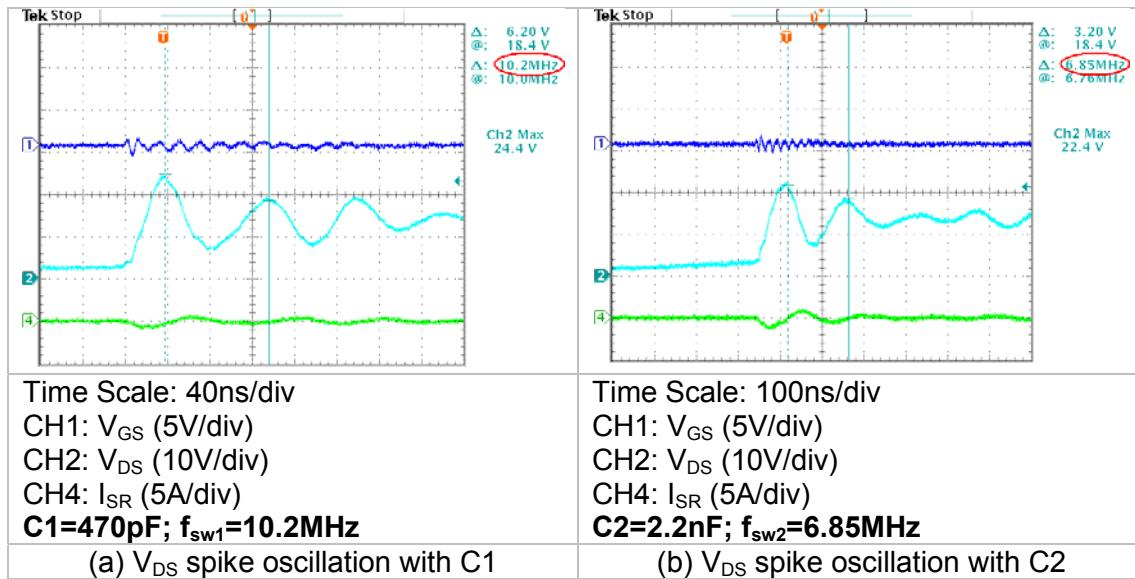

Figure 15 —Drain-Source Voltage Spike Oscillation
According to (13) and bench test results in figure 15, C_P and L_S can be calculated as $\sim 940pF$ and $\sim 0.2\mu H$.
- Secondary stray capacitance and inductance: $C_P=940pF$, $L_S=0.2\mu H$, which is already got from (13) and figure 15.